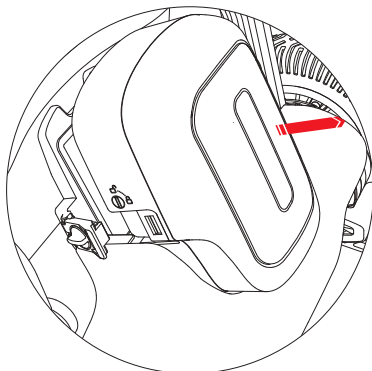

Figure 4.6.1.3
(3) Battery Removal (Refer to Figure 4.6.1.3)